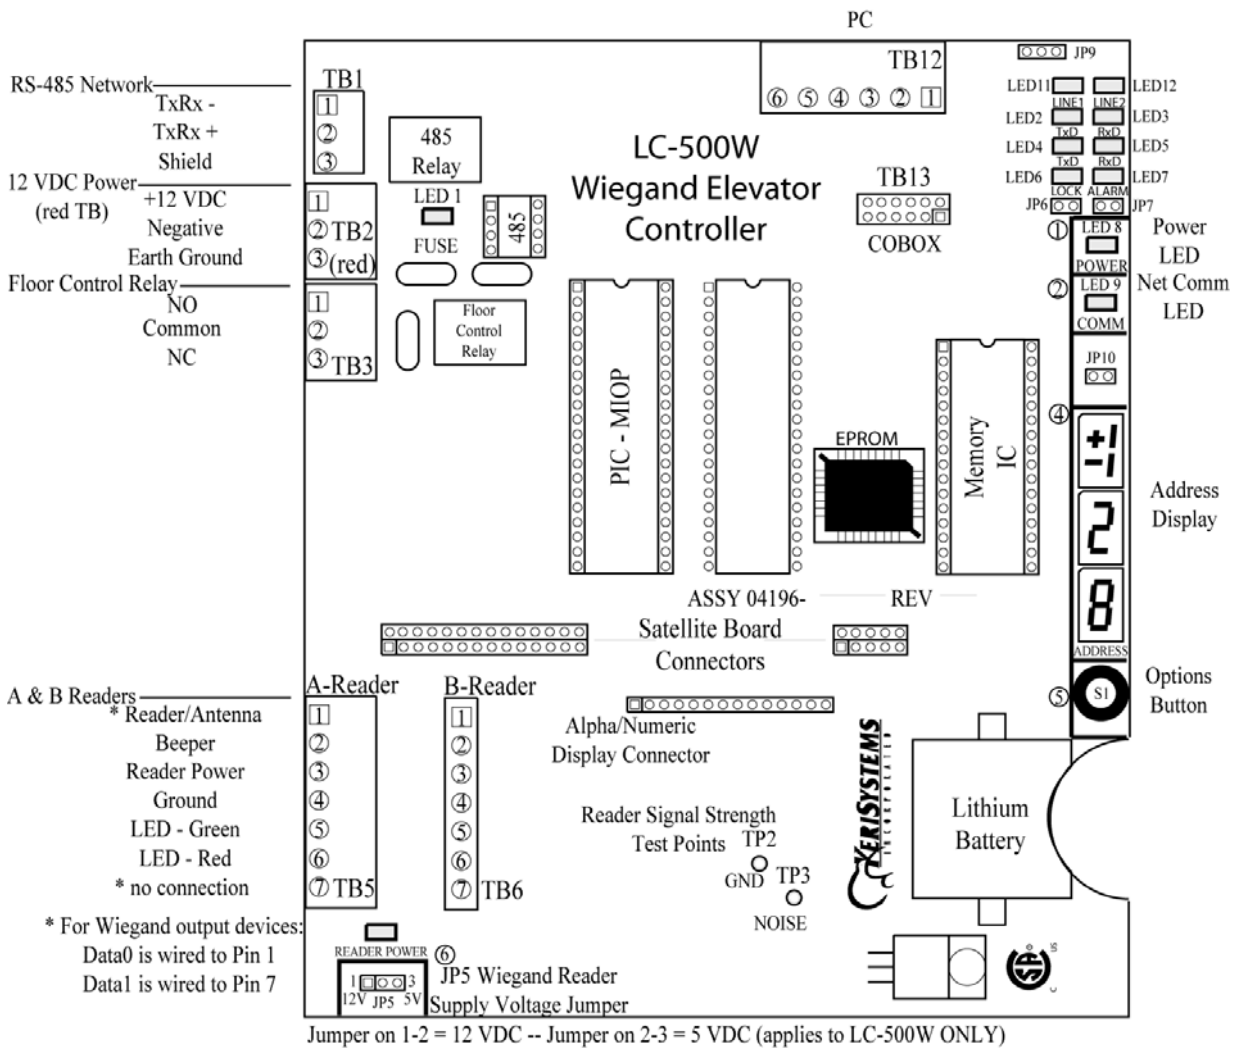
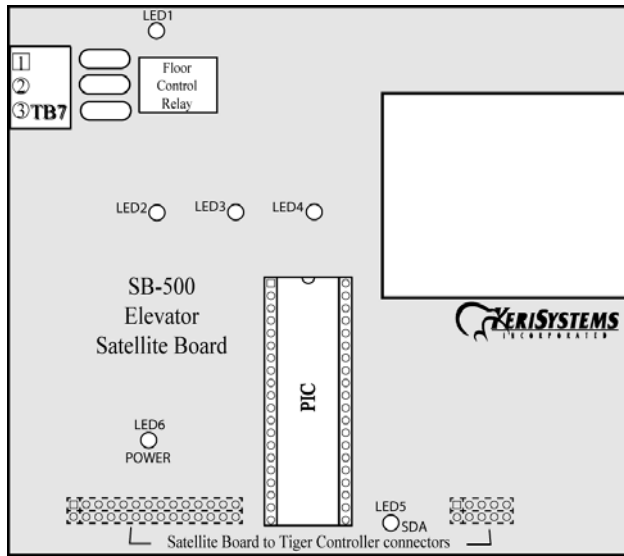

Figure 1: The LC-500W Elevator Controller
Figure 2: The SB-500 Satellite Board
- Refer to Figure 1 and Figure 2 on page 8 when reviewing the information throughout Section 5.2 beginning on page 10.